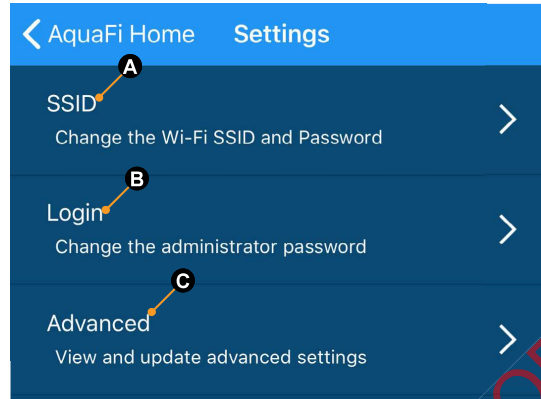

Fig.15
1. From an established network connection, the Settings screen (Fig.15) shows three options:
10. To change the Login administrator password, go to the AquaFi Home Settings screen (Fig.15) and select the Login option (Fig.15B).